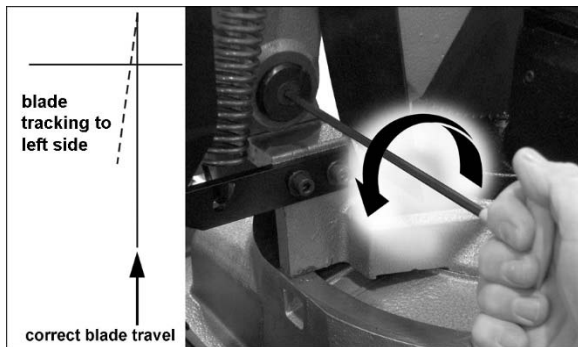

Figure 13-4
3. If blade tracks to left side, rotate *left* socket screw *counterclockwise* (Figure 13-4).